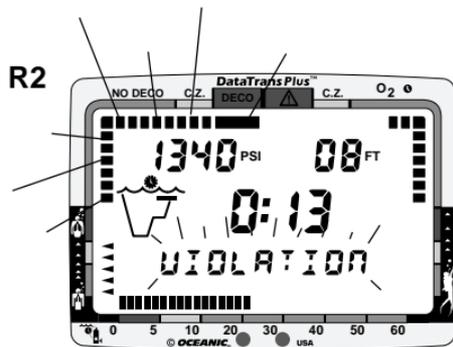

Fig. 94 - Delayed Violation
- 1. You remain above the required Decompression Ceiling Stop Depth for more than 5 minutes (Fig. 94).**